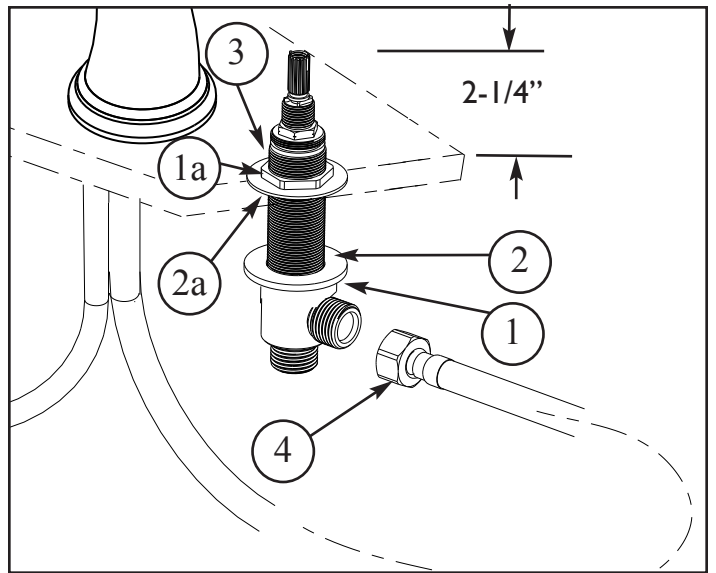

Figure 2
2. Place flange NUT (1) and fiber WASHER (2) onto valve BODY (3). Insert valve BODY (3) through sink hole from underside of sink. Valve BODY (3) should extend: 2-1/4" above mounting surface. If necessary adjust lower flange NUT (1). Place fiber WASHER (2a) and flange NUT (1a) onto upper position of valve BODY (3). Set valve BODIES (3,3A) so that their outlets are facing towards the center of the sink and tighten upper flange NUT (1a). See Figure 2.
3. Connect HOSE (4) to outlet of each valve BODY (3,3a). (Red to HOT an Blue to COLD). Hand tighten and secure each HOSE (4) with a wrench 1/4 turn. See Figure 2.